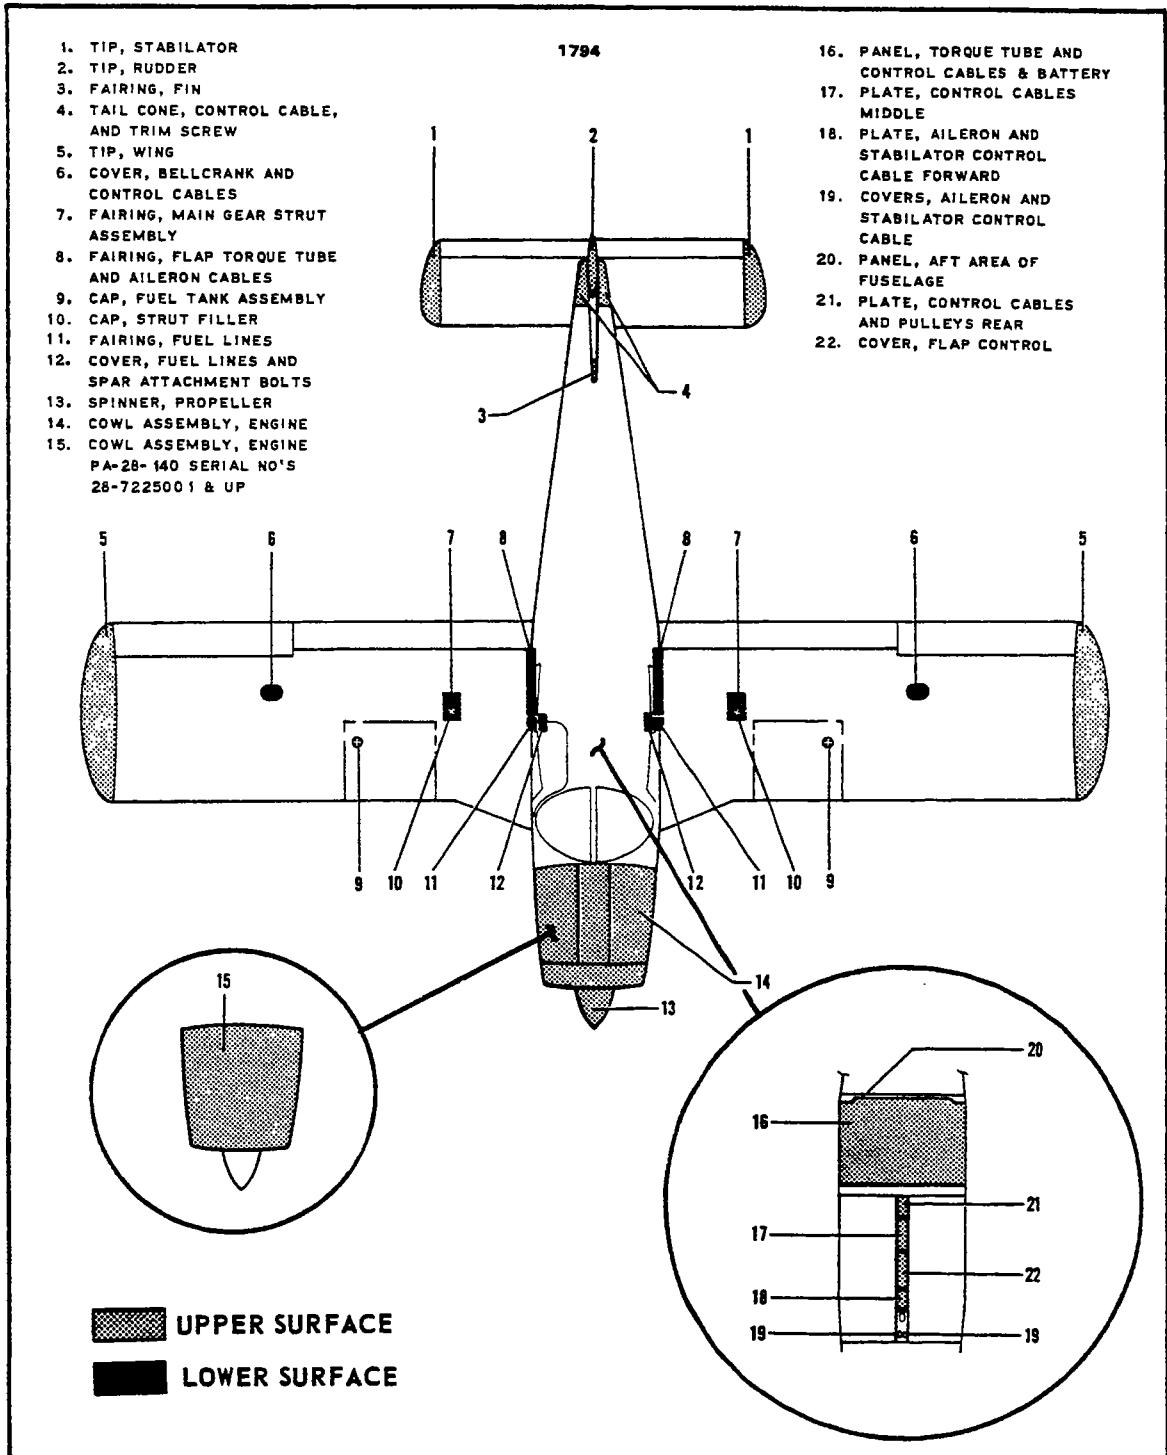

Figure 2-25. Access Plates and Panels
**2-6. ACCESS AND INSPECTION PROVISIONS.** The access and inspection provisions for the airplane are shown in Figures 2-25 thru 2-28. The component to be serviced or inspected through each opening is identified in the illustration. All access plates and panels are secured by either metal fasteners or screws.